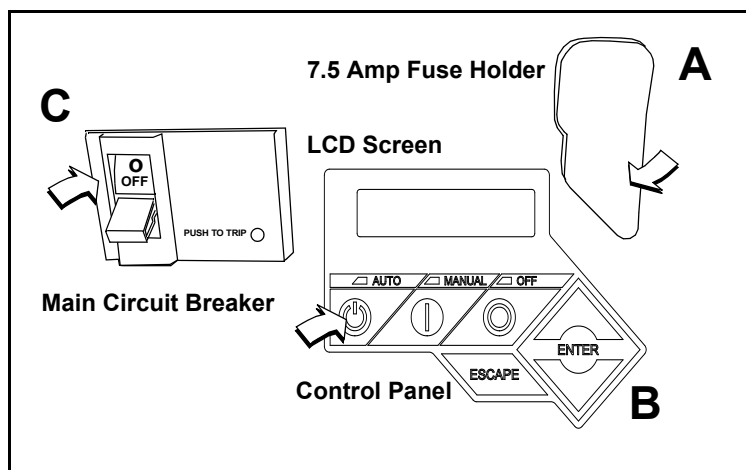

Figure 5-16. Generator Control Panel
1. Pull up rubber flap covering fuse holder and install 7.5 amp fuse. See A of Figure 5-16.
3. Press AUTO on the control panel. A green LED illuminates to confirm that the system is in the AUTO mode. See B of Figure 5-16.
4. Move the Main Circuit Breaker switch up to the ON (Closed) position. See C of Figure 5-16.